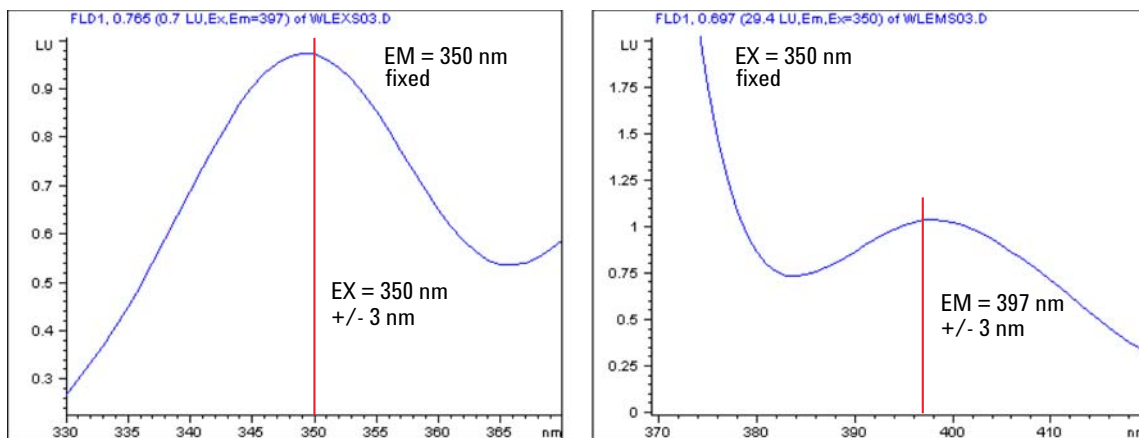

Figure 58 Excitation and Emission Spectrum (expected results)
As result, the maxima should be found at 350 nm \pm 3 nm, see Figure 58 on page 154.
As result, the maxima should be found at 397 nm \pm 3 nm, see Figure 58 on page 154.
- 4 Open the Online Spectra plot and observe the maximum as shown in Figure 58 on page 154 (left).
- 6 Open the Online Spectra plot and observe the maximum as shown in Figure 58 on page 154 (right).